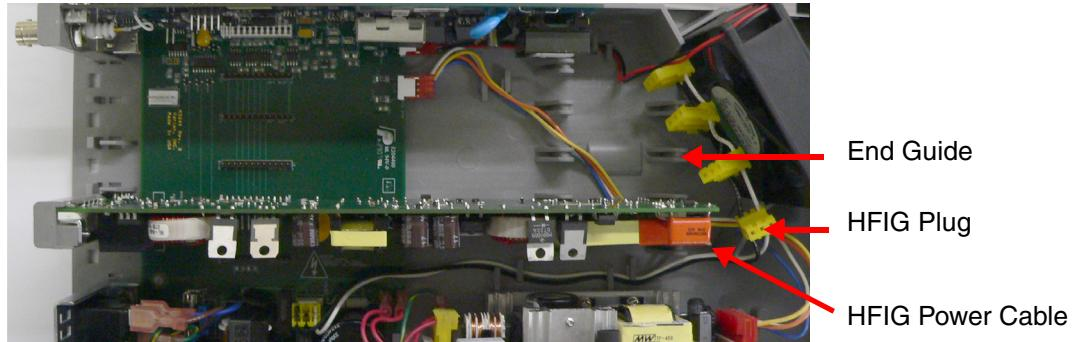

Figure 4-3 End Guide and HFIG Connector
- a. Place the end of the board into the end guide (Figure 4-3).
- d. Insert the yellow HFIG plug into the connector (HFIG boards only). See Figure 4-3. This connector is keyed.